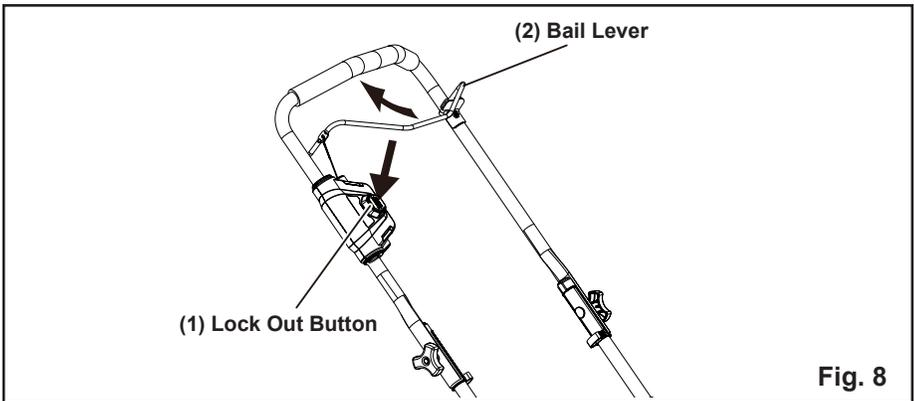

Fig. 8
STARTING/STOPPING THE MOWER (See Figure 8)
- Press and hold the safety lock-out button (1). (See Fig. 8)
- Pull the bail switch (2) upward to the handle to start the mower and release the button.